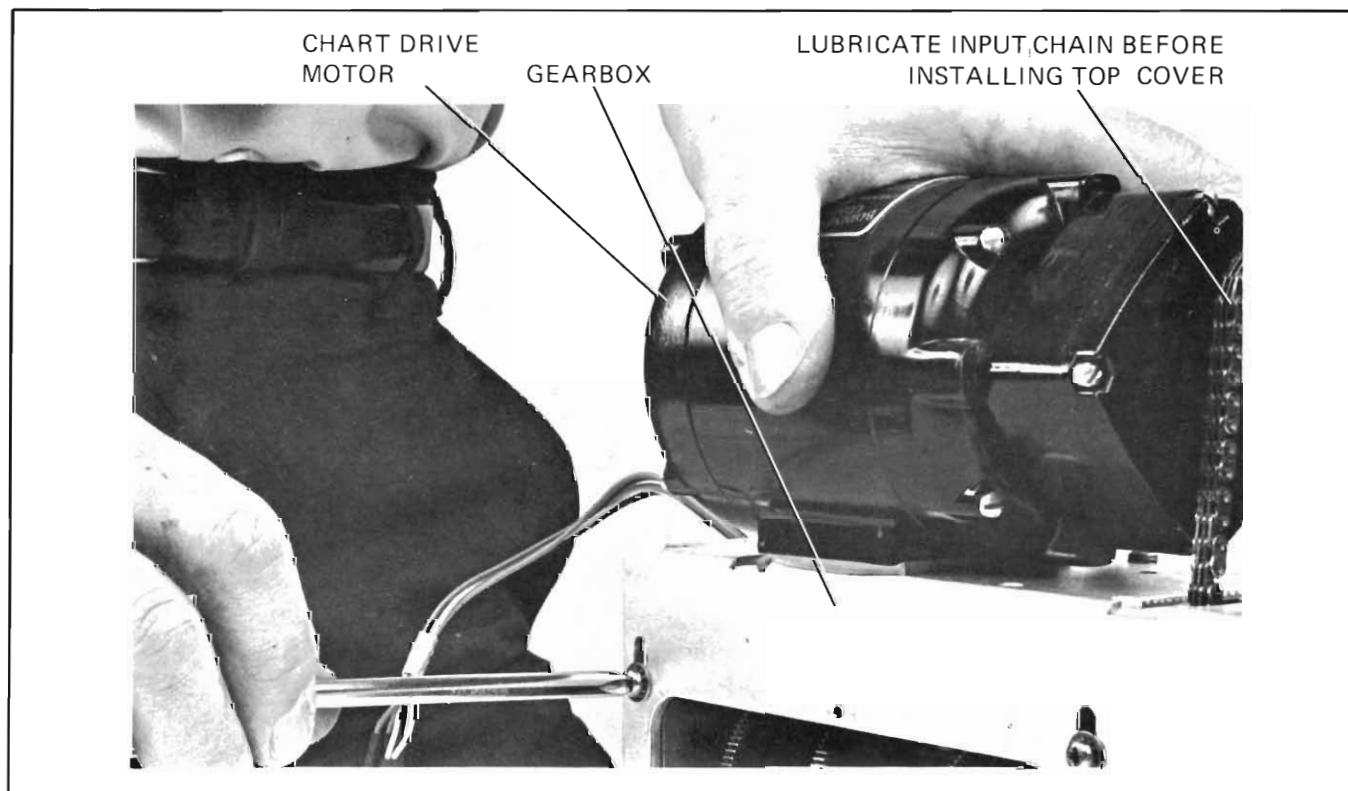

Figure 5-24. Gearbox Input Chain Tension Adjustment
b. Suspend gearbox by drive motor as in Figure 5-24. Weight of gearbox sets chain tension. Tighten screws with gearbox hanging by motor, being sure motor and gearbox are aligned.